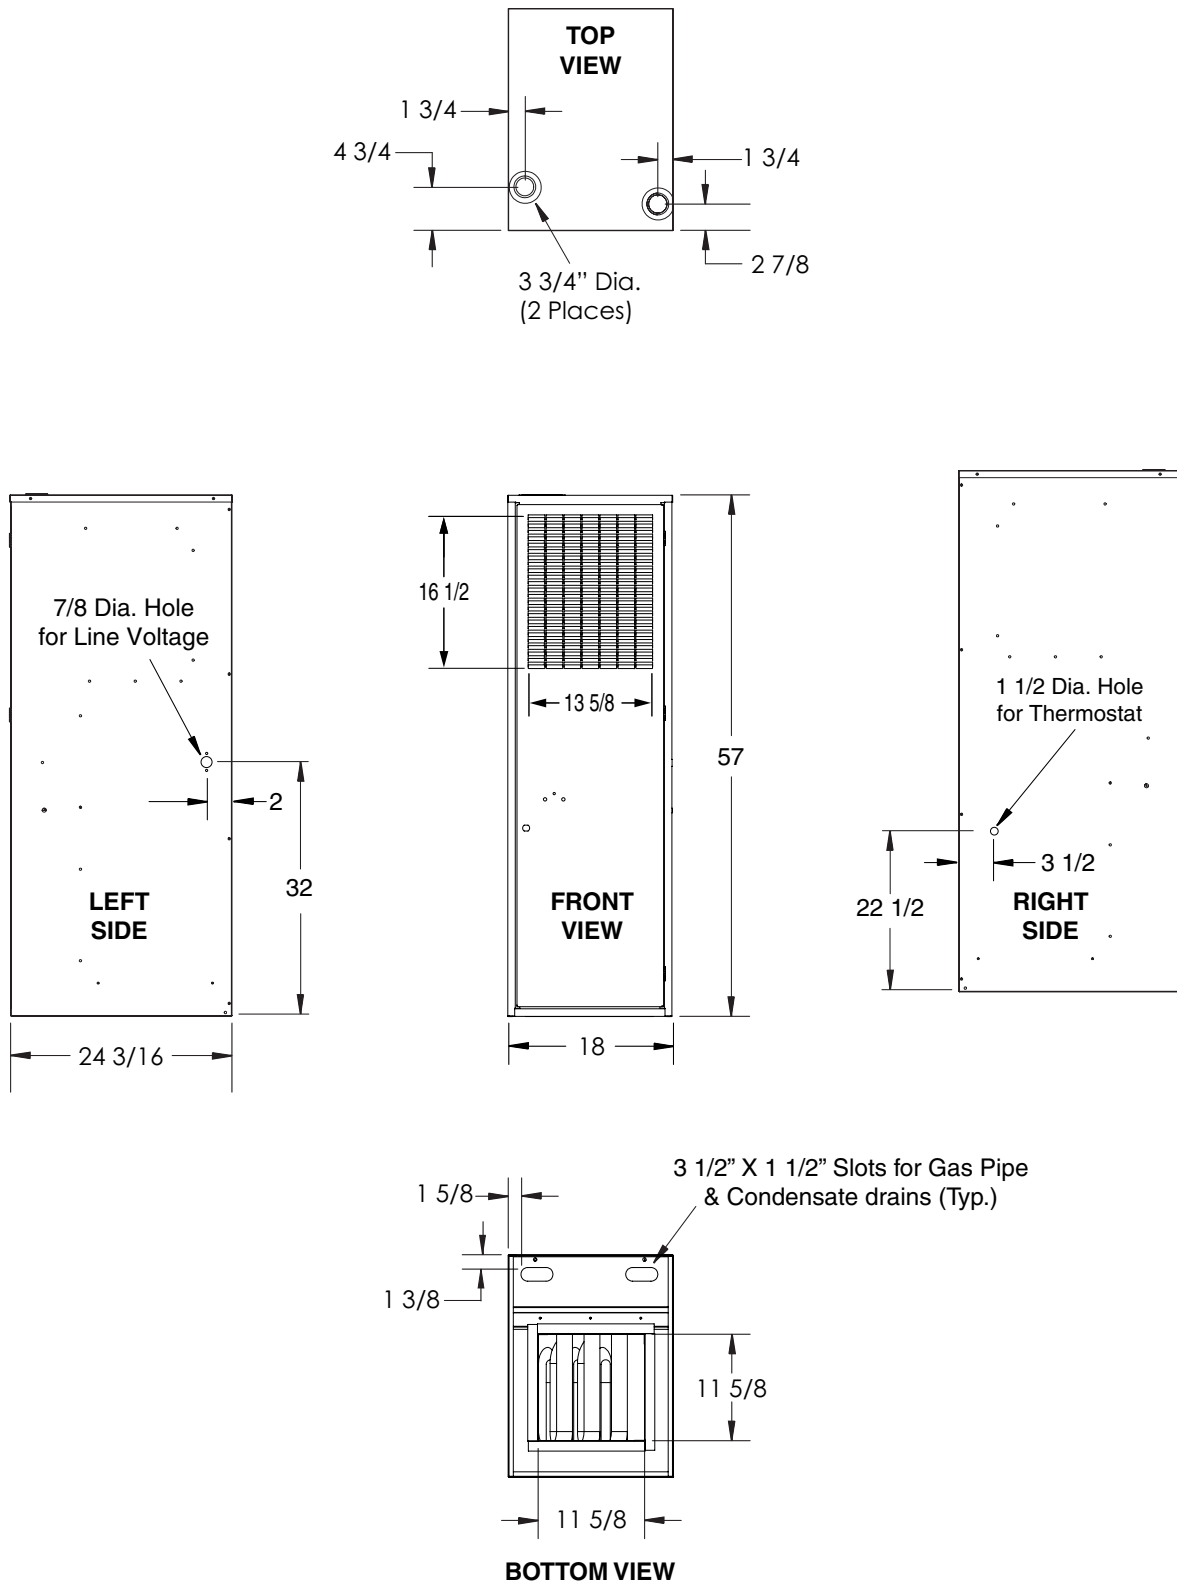

Figure 18. Furnace Dimensions
- Are all the LED's on the furnace control board constantly ON? If not, refer to Table 6 or the wiring diagram (Figure 18, page 29) to determine fault condition.